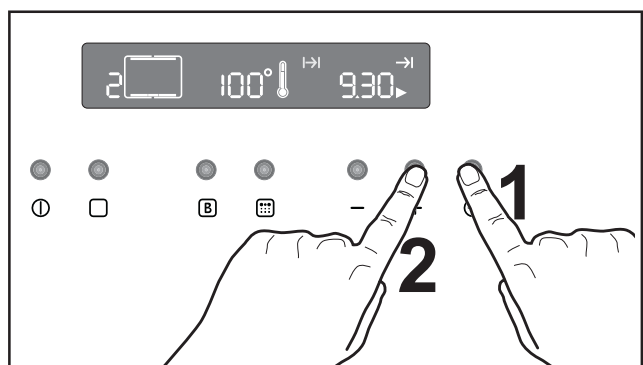

Fig. 13
2. Press time function button  until the "End of Cooking" function  is selected and the relevant symbol flashes. The control panel will display the end of cooking time (that is, the actual time + cooking duration time) (Fig. 13).